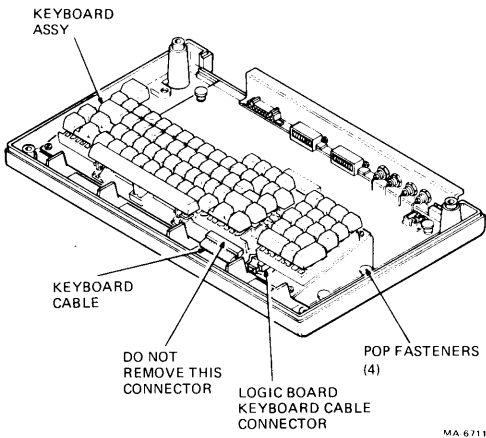

Figure 5-3 Keyboard Assembly Removal
2. Release the four (4) pop fasteners securing the keyboard assembly to the terminal (Figure 5-3). To release the pop fasteners pull up on the plungers.